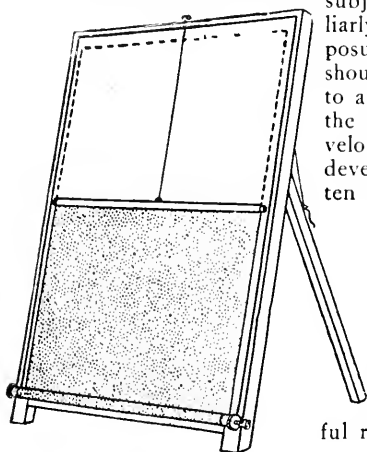

Fig. 17. Diagram of reflector; dark material shown half drawn up. Dotted lines show material drawn up to its full height.
**Pencil Sketch Effect** As a variation of this light background work, portraits resembling pencil sketches can be obtained, as follows (see Fig. 16): The sitter is placed before the white ground, as arranged for light background work. Then a reflector, as shown in Fig. 17, with the dark blind drawn up over it, is placed as near as possible at the side of the sitter, who should preferably be posed in profile. This dark reflector causes the face to assume a darker tone than the dress